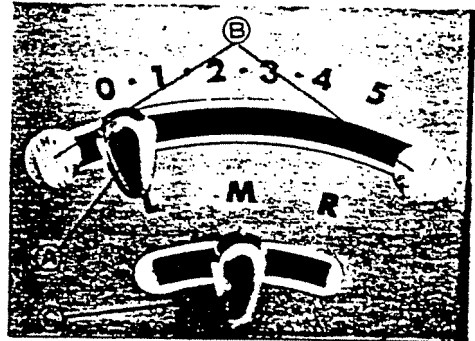

Fig. 22
- (1) Set needle position lever at "M" position (Fig. 22)
- (2) By moving the zigzag width lever "A" (Fig. 22) gradually to the right, it will produce zigzag stitches of ever increasing width. To maintain selected widths of zigzag stitches, employ locks "B" (Fig. 22).
- (3) Left lock determines the minimum width stitch, while right lock controls the maximum. Locks can be set by pressing in slightly and moved to the desired position.
Select needle position by pressing down slightly on control "C" (Fig. 22) and move to desired position.
With the machine set for a short stitch length, different designs can be made by swinging the stitch width lever "A" (Fig. 22) between "0" and "5" or any combination of widths. Try setting the locks at "1" and "5", "2" and "5", etc. Set a rhythm for yourself and then proceed. After a while you will become quite skillful, varying your designs by stitch length and width and the manipulation of lever "A" (Fig. 22). Always run the machine at a uniform speed whether fast or slow.